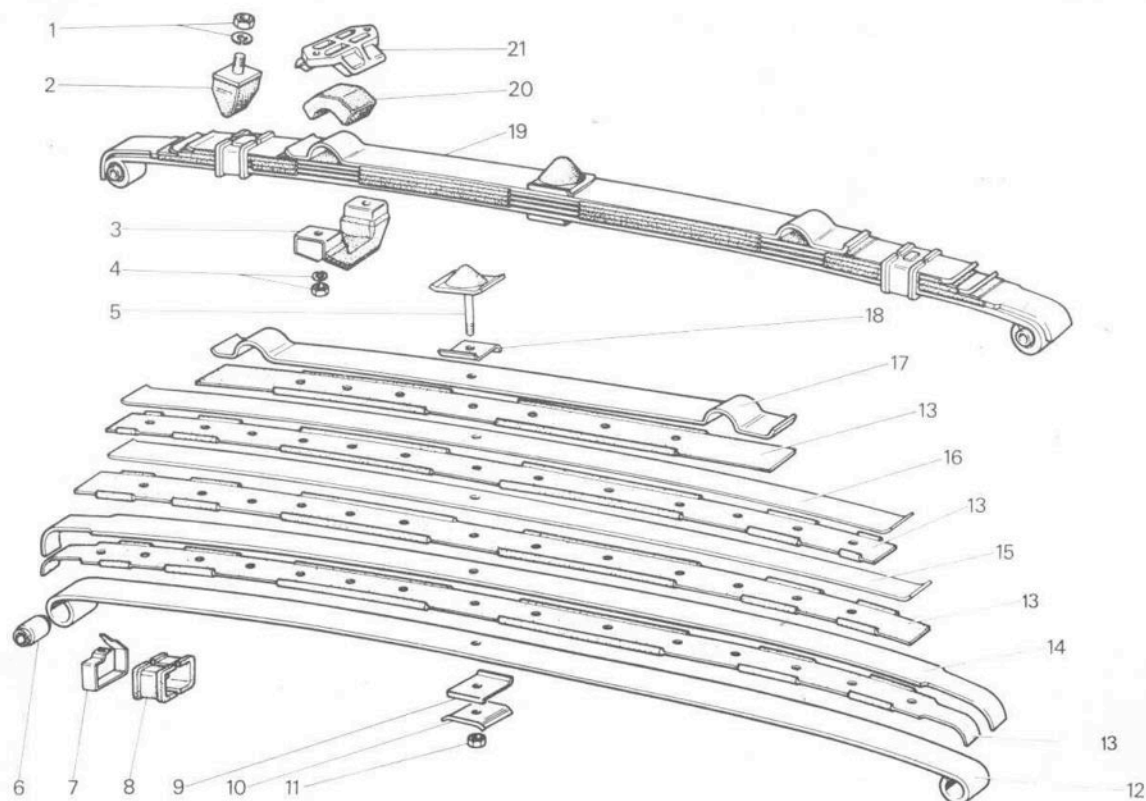

FIG 8:5 Front leaf spring assembly and components
**Key to Fig 8:5** 1 Nut and lockwasher 2 Rubber buffer 3 Rubber-lined mount 4 Nut and lockwasher 5 Centre bolt